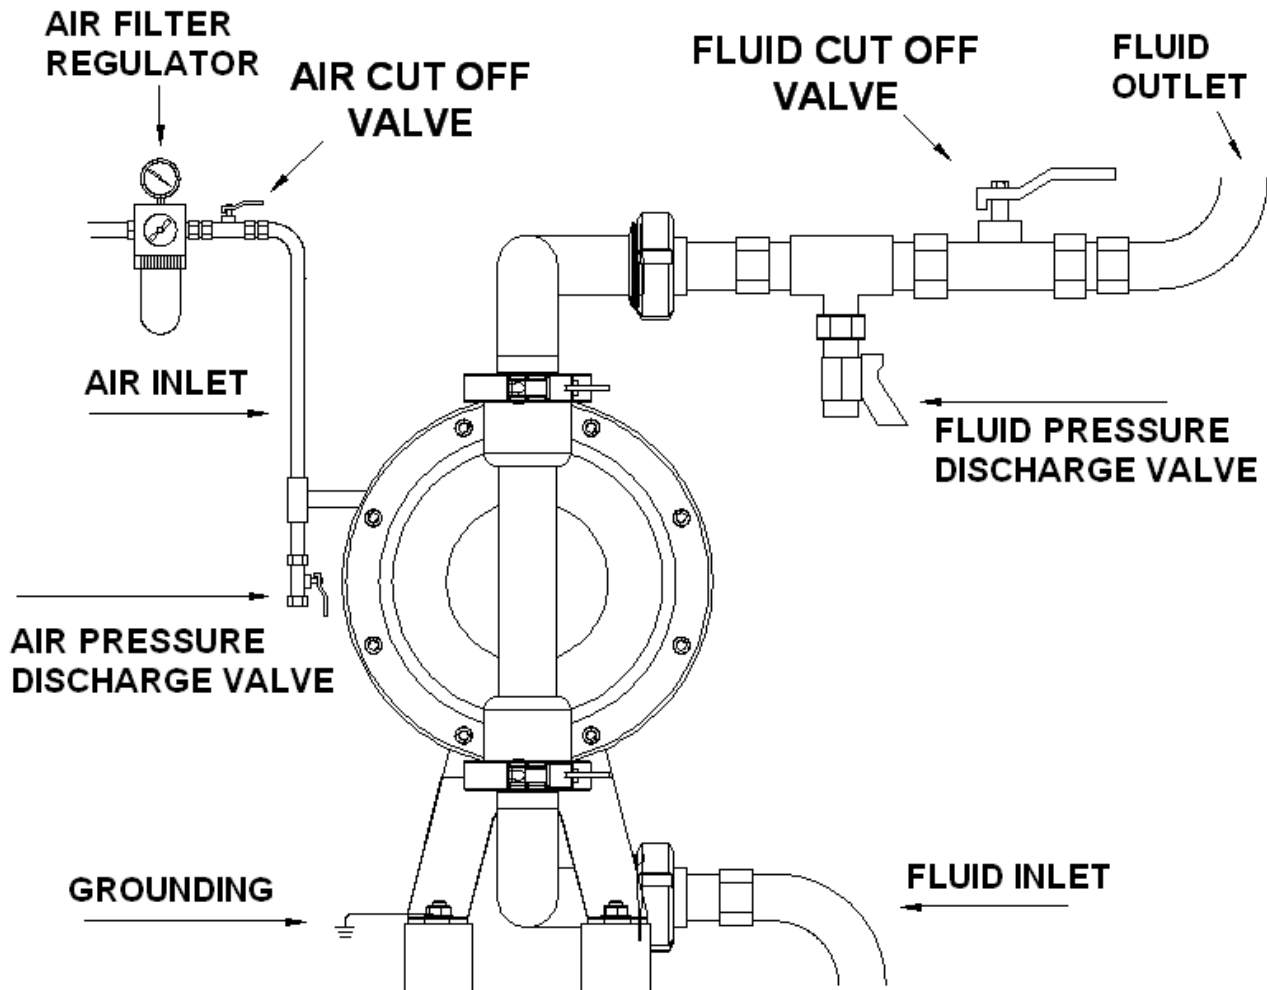

Figure 7- Typical installation scheme
A bleed-type master air valve is required in your system to relieve air trapped between this valve and the pump. Trapped air can cause the pump to cycle unexpectedly, which could result in serious injury, including splashing in the eyes or on the skin, injury from moving parts, or contamination from hazardous fluids. See Fig. 7.
- 1-Refer to the Figure 7 for the connection scheme. Fix these accessories to the wall or to a bracket. The air line feeding the accessories must be grounded.
5.6.1 For the pump: Use a conductor (for grounding) with a cross-section of at least 1.5 mm². Connect the conductor to the pump's leg as shown on Fig. 7, and the other end to the grounding line.